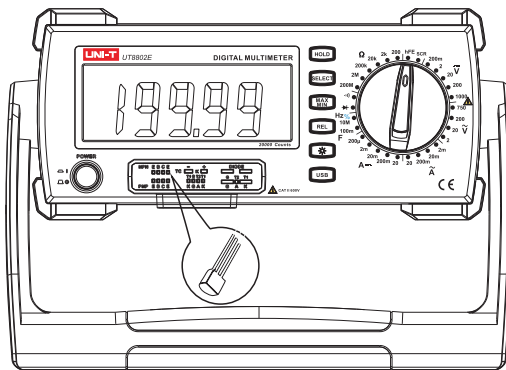

Figure 10
9. Measurement of Transistor (see Figure 10)